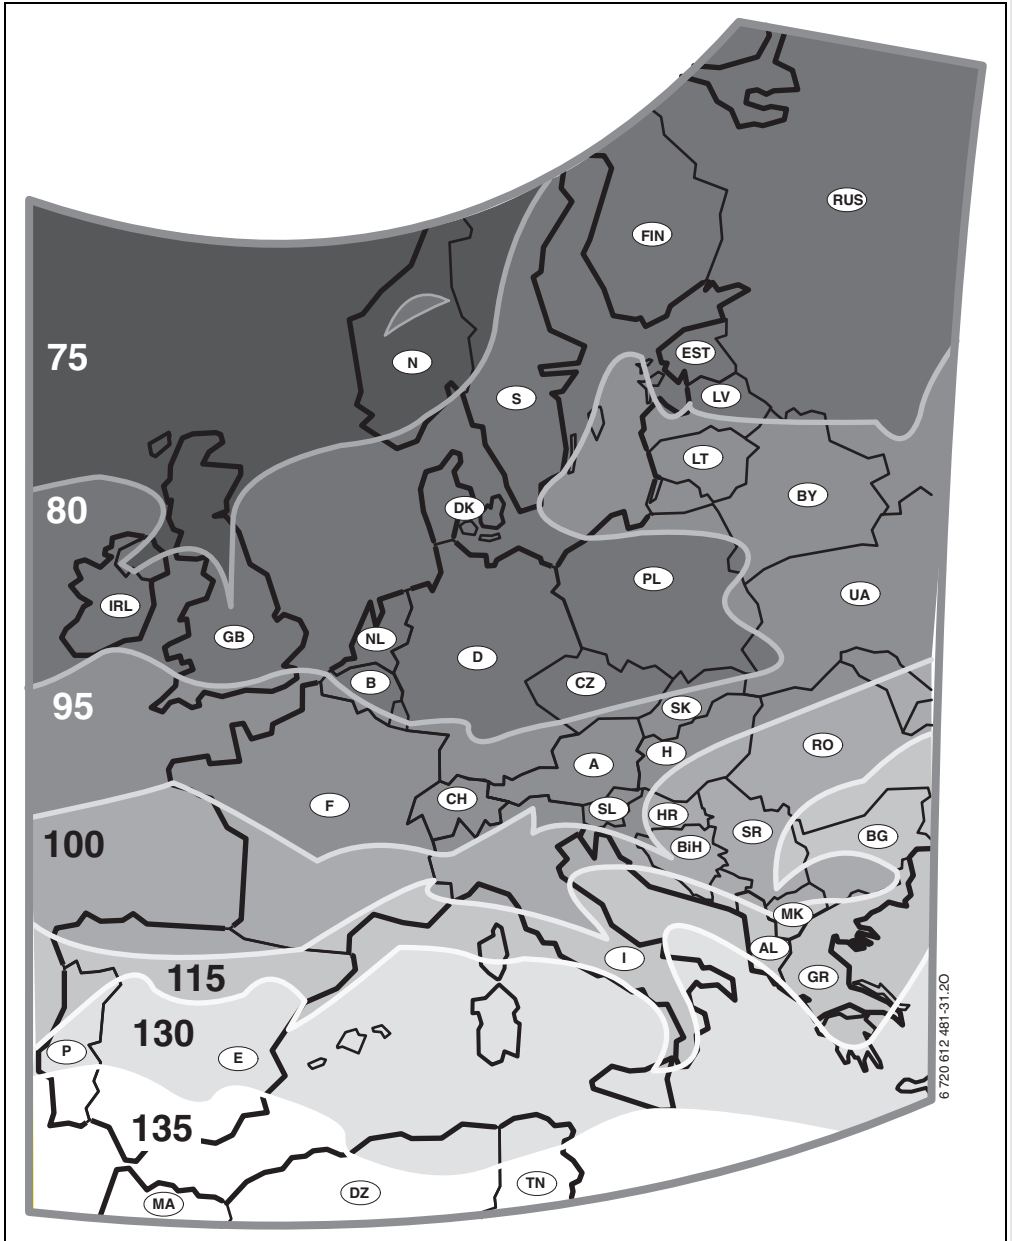

Fig. 14 Map of climate zones in Europe
- Find the location of your system on the climate zones map (→ Fig. 14) and enter the climate zone number.